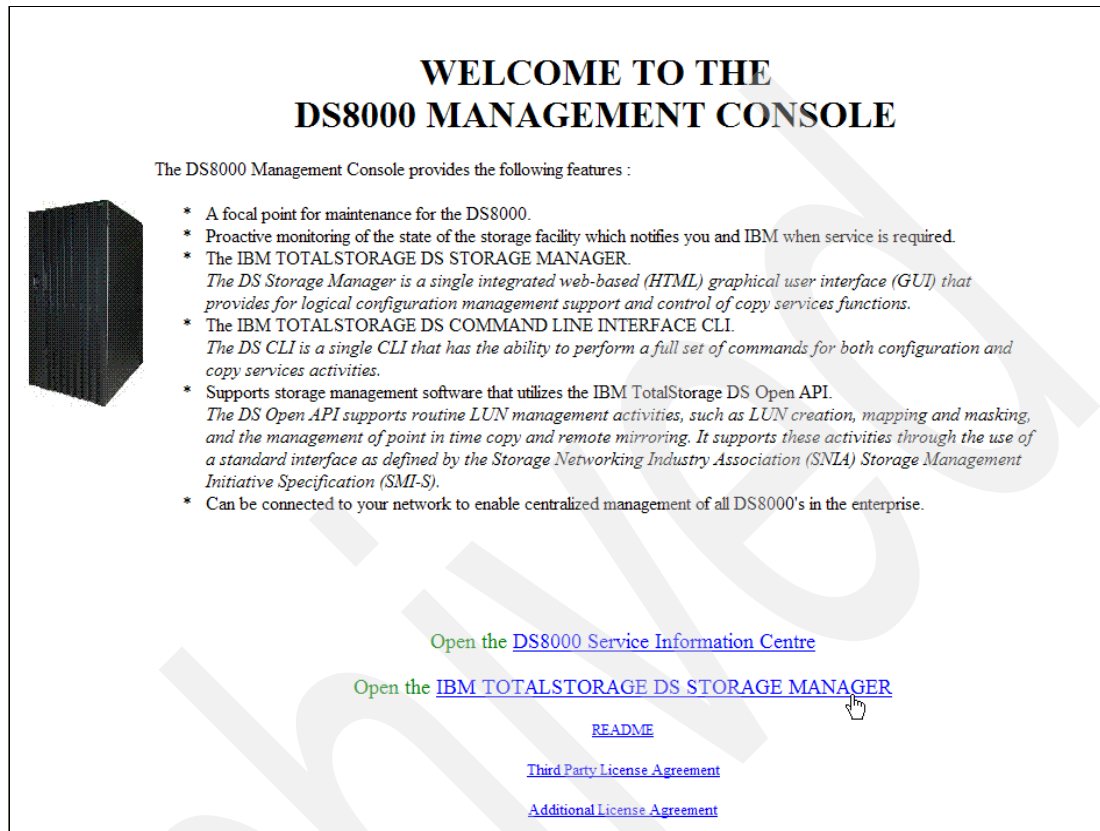

Figure 13-8 Management Console Welcome window
3. Click **Browser**. The Web browser is started without address bar and a Web page titled WELCOME TO THE DS8000 MANAGEMENT CONSOLE opens, as shown in Figure 13-8.